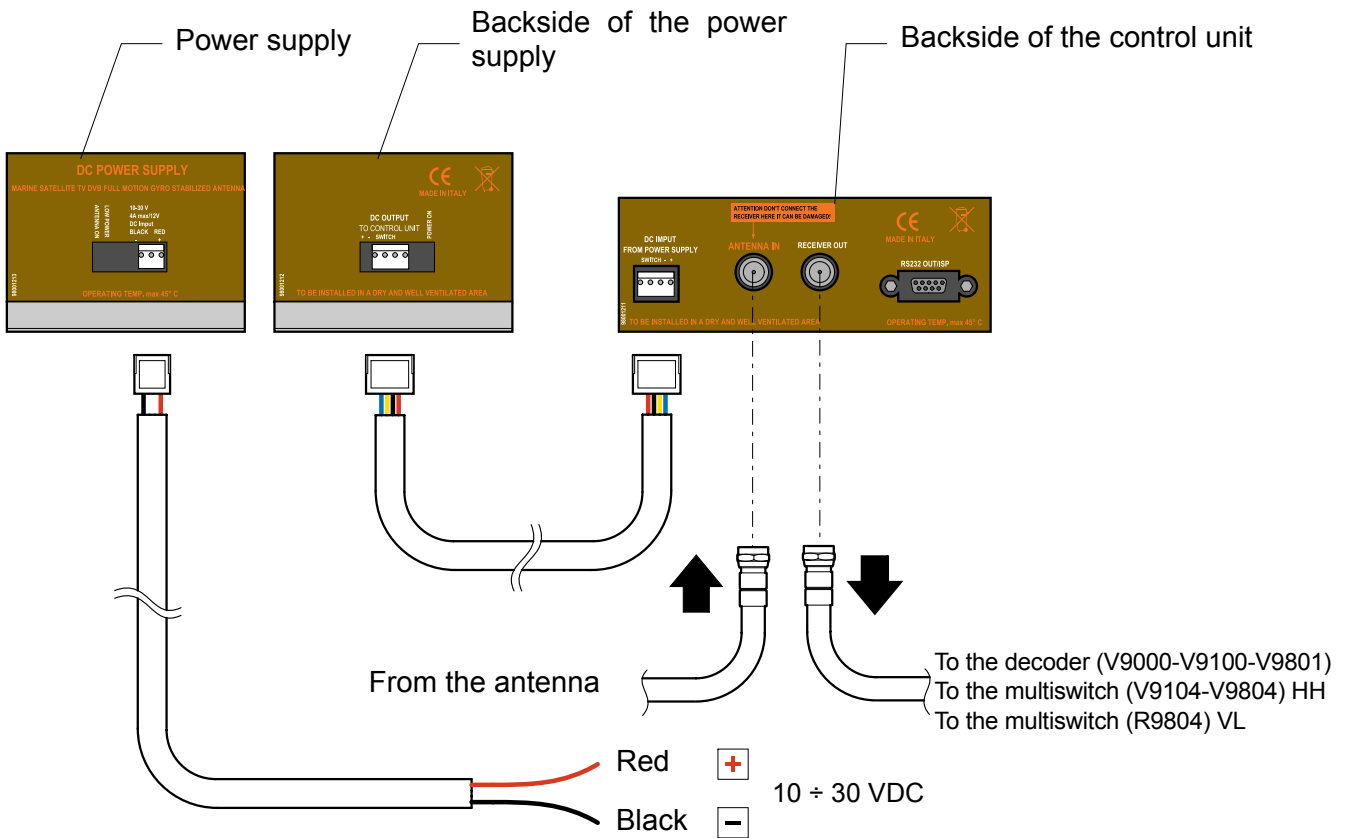
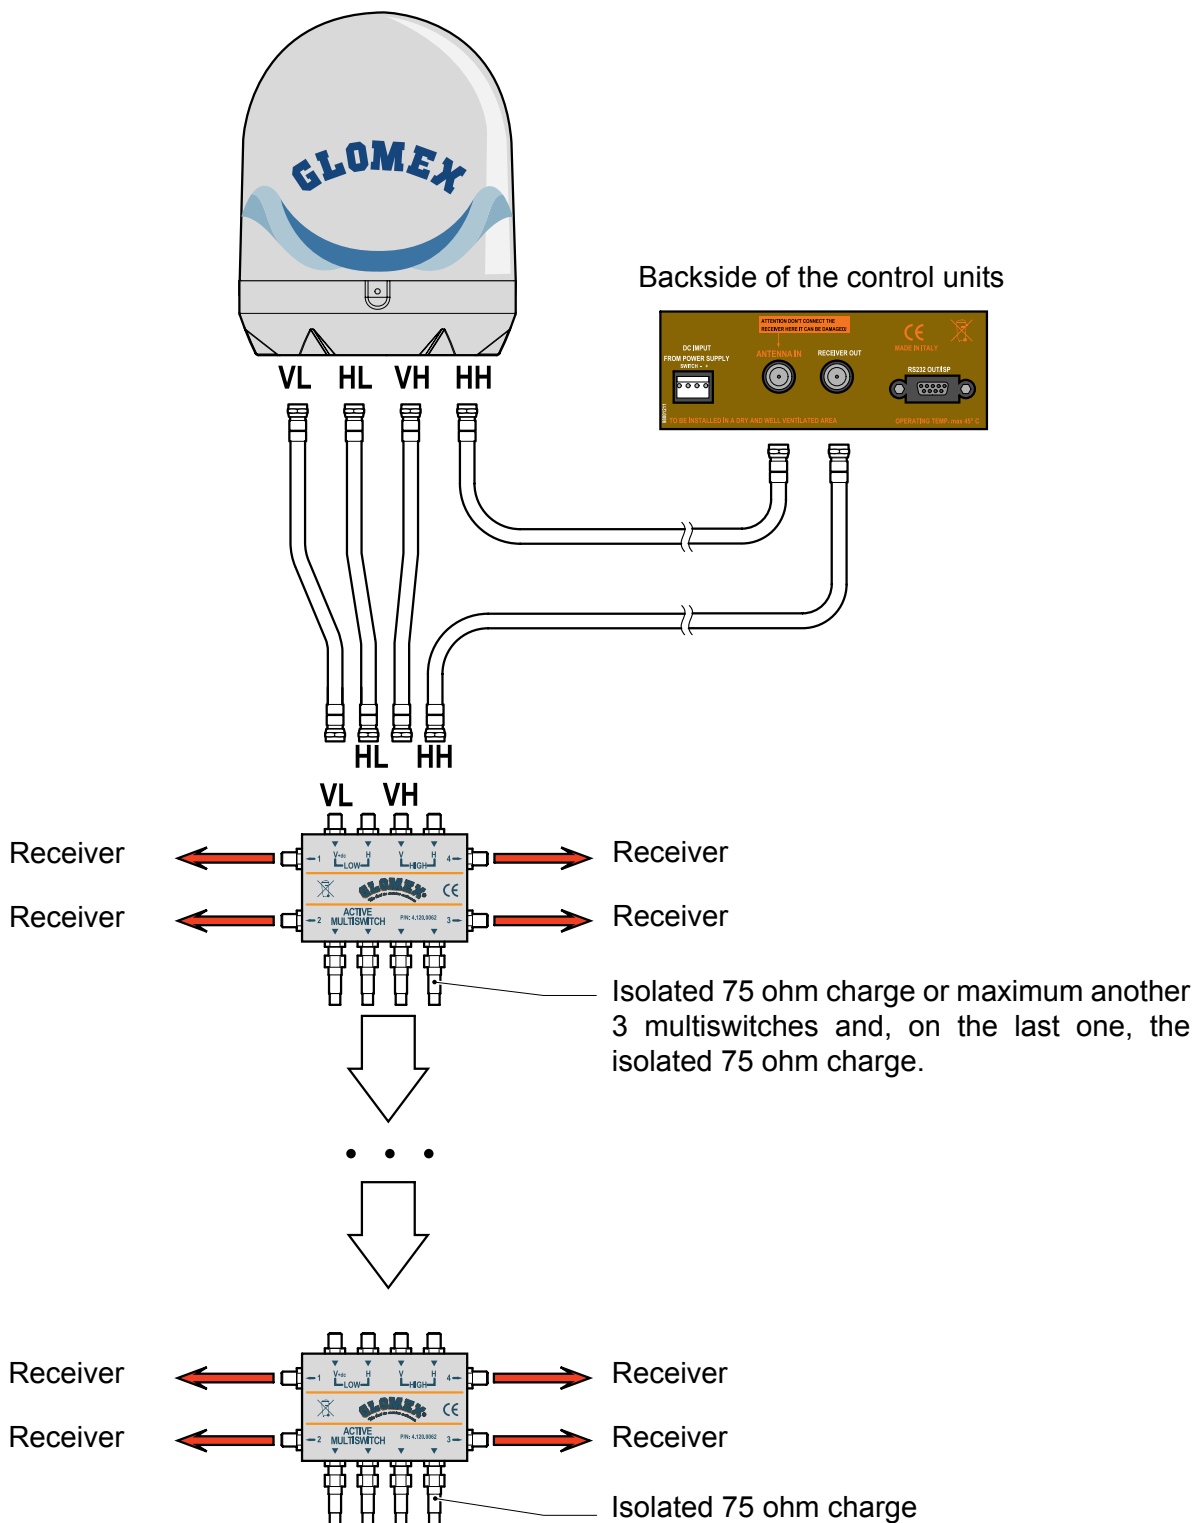

Fig. 16
Fig. 19
- For models V9104, V9104SKEW, V9804 and V9804SKEW which provide for the presence of the multiswitch, connect the cables by following the indications given in Fig. 19.
8. Connect the cables to the line amplifier (if available), to the multiswitch (if available), to the receiver(s) (not included), as indicated in Fig. 1, Fig. 16, Fig. 19.